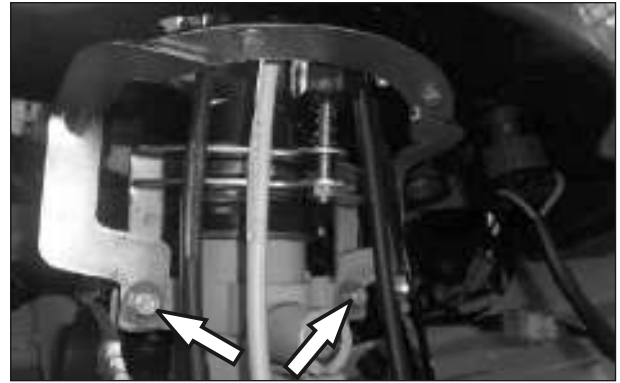

Fig. 2.112
- Assemble Damper assembly on steering column to the head tube assembly using wave spring washer, punched washer and hexagonal screw with tightening torque 6 to 7 Nm.(Fig. 2.112)